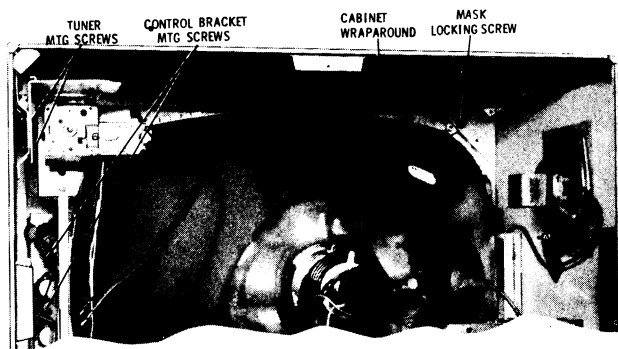

FIGURE 3B
DISASSEMBLY OF CABINET WRAPAROUND is continued by removing the two (2) screws at upper left-hand corner which holds tuner bracket to side panel. Speaker leads should be unplugged at this time. (See Figure 3B.)